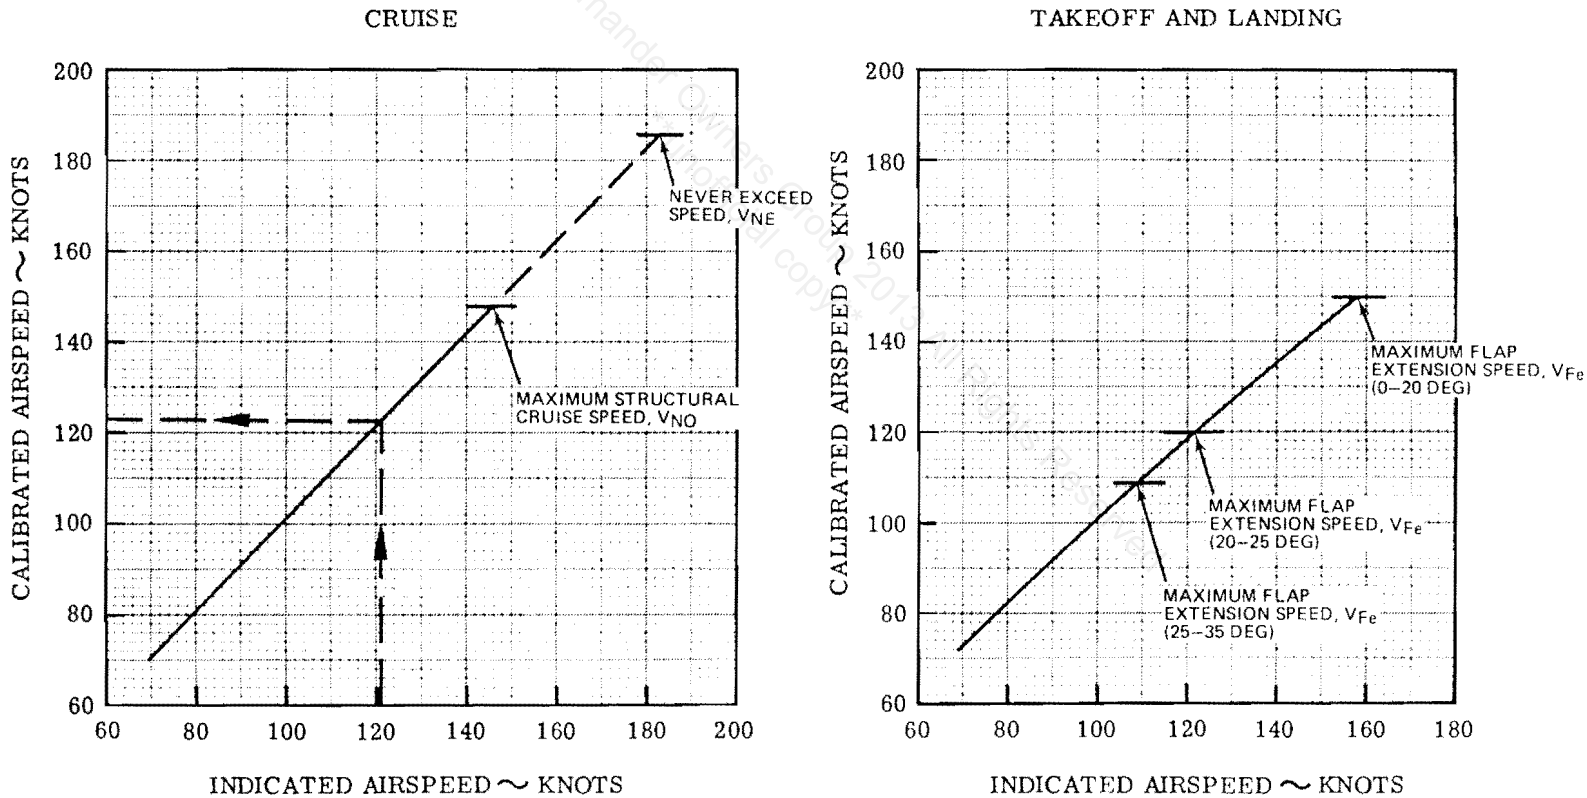

Figure 5-4.
The variation of Calibrated Airspeed with Indicated Airspeed is shown in Figure 5-4 for Takeoff, Cruise, and Landing Configurations. It applies only when the Alternate Static Pressure Source has been selected, and all side windows are CLOSED.
3. A conveniently located plasticized card is provided in the cockpit, which tabulates the Airspeed Calibration information presented in Figure 5-4.